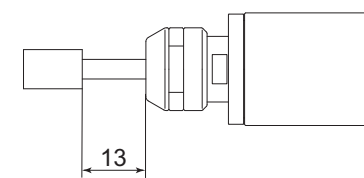

Fig. 15
- ① The proper surface speed for general grindstones is 10 - 30m/s.
- ② Do not exceed 13mm of overhang for mounted grindstones as shown in Fig. 15. If the overhang must exceed 13mm, reduce the motor speed in accordance with table 3.
- ③ Dress the grindstone prior to use.
- ④ Do not use cutting tools with bent or broken shanks, cracks or excessive run-out.
- ⑤ For grinding, the maximum depth of cut should not exceed 0.01mm radially or axially. Reciprocate the tool several times after each pass to eliminate tool pressure.
- ⑥ Always operate cutting tools within the allowable recommended speed of the cutting tools. Use of a cutting tool outside of the allowable speed of the cutting tools could cause damage to the spindle and injury to the operator.
- ⑦ Keep the cutting tool shank and collet chuck clean. If contaminants are left in the collet chuck or chuck nut, excessive run-out will cause damage to the cutting tool and or spindle.
- ⑧ Do not strike or disassemble the spindle.
- ⑨ Please set the cutting tools to minimize the overhang amount. 13mm is the maximum amount of overhang to maintain high accuracy and safety.